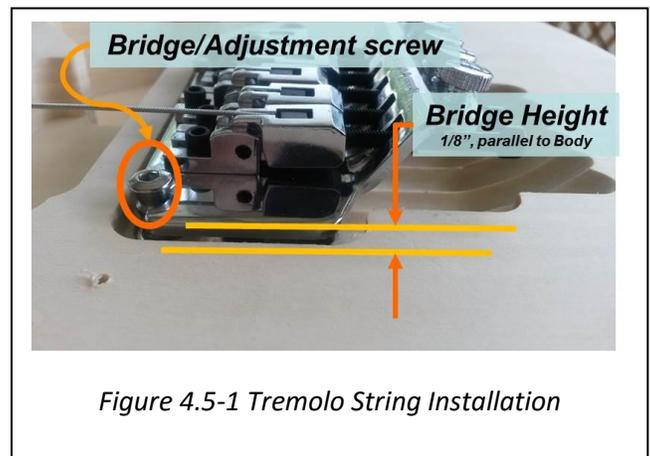

Figure 4.5-1 Tremolo String Installation
2. While holding the bridge assembly by the string locking bolts, use the 3mm Allen wrench to adjust the initial height of the bridge base so that it is approximately 1/8” above the Body. Ensure that the base notches are in the collared head of the adjustment screw (Fig. 4.5-1).
3. Carefully uncoil each of the strings (6), ensuring that the stings do not have a kink.